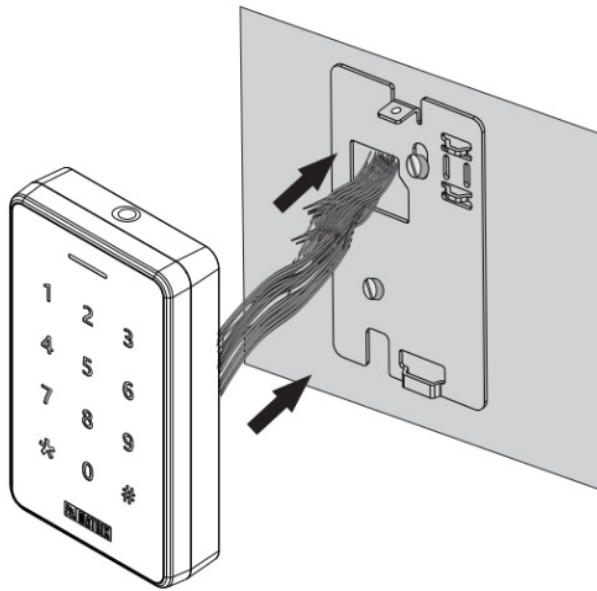

Figure 8
3. Lead the cables from the wall through the drilled area C of the Mounting Plate as illustrated in Figure 8. Connect the necessary cables with COSEC ATOM.